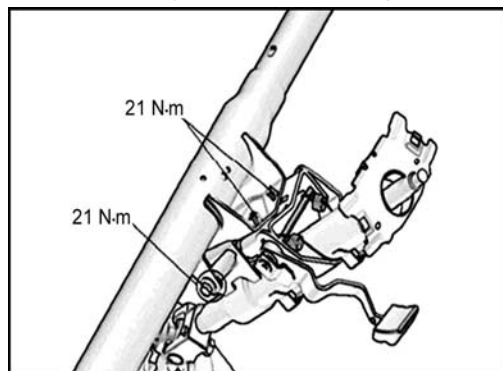

Fig. 2-33
- ① Mark the matching place on the slip yoke and intermediate shaft.
- ② Loosen the bolt A and B, and then disconnect the intermediate shaft.
- 15) Remove the steering column assembly, as shown in Fig. 2-33.